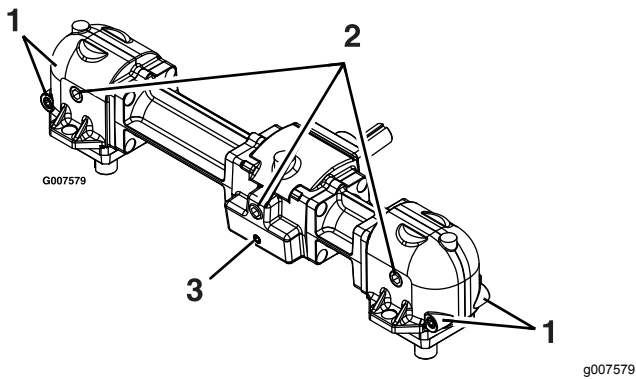

Figure 33
5. Remove the large oil drain plug on the front of each of the 3 gearbox sections and drain the oil (Figure 33).